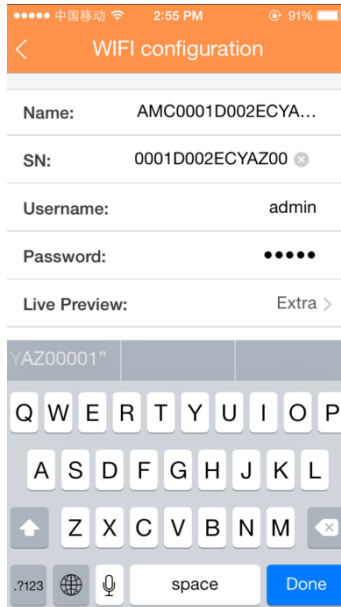

Figure 28-10
- 3) Scan the QR code of WIFI device, when complete, return to device adding interface. SN will be automatically filled in as in Figure28-10.